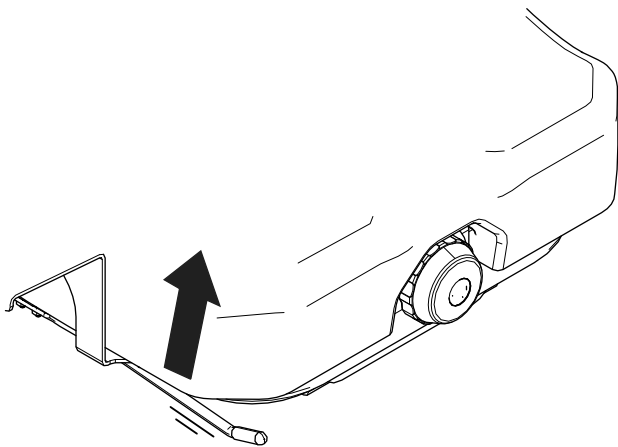

Figure 13
- **Model 32302 and 32303:** Lift the locking lever to release the seat (Figure 13), move the seat to a comfortable position, and release the locking lever to secure the position of the seat.